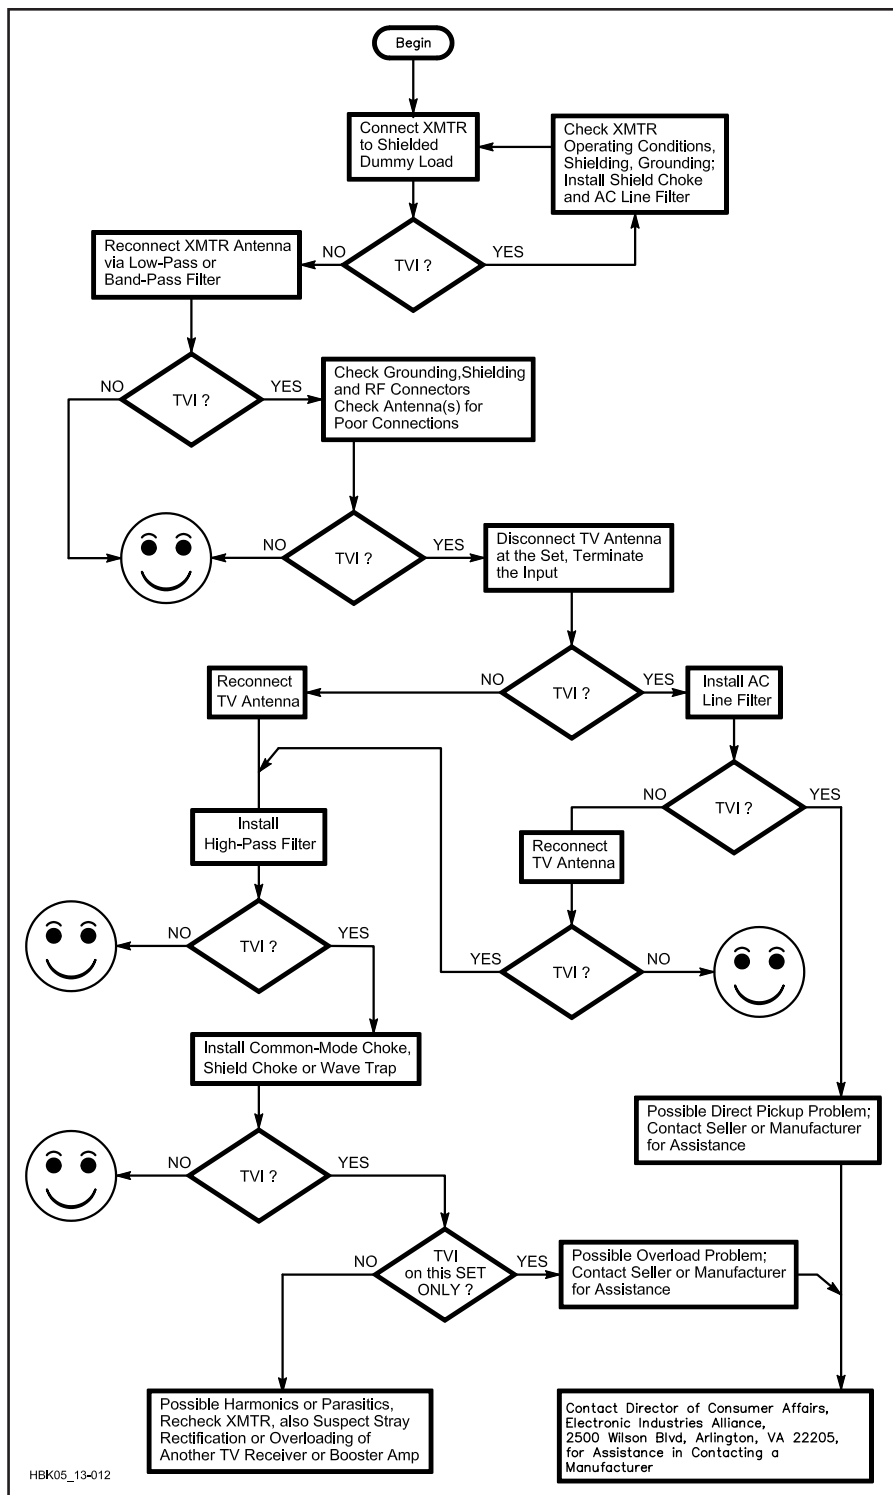

Fig 13.12 — TVI Troubleshooting Flowchart
All of these potential problems are made more severe because the TV set is hooked up to *two* antenna systems: (1) the incoming antenna and its feed line and (2) the ac power lines. These two "long-wire" antennas can couple a *lot* of fundamental or harmonic energy into the TV set! The TVI Troubleshooting Flowchart in Fig 13.12 is a good starting point.